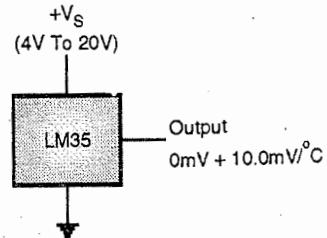

Fig. 3.2.1 : Circuit diagram for the LM35 basic temperature sensor ( $+2^\circ\text{C}$  to  $+150^\circ\text{C}$ )
- As shown in the Fig. 3.2.1 the connection for LM35 is very simple. Also the output scale is linear with a change of  $10\text{mV}/^\circ\text{C}$ .